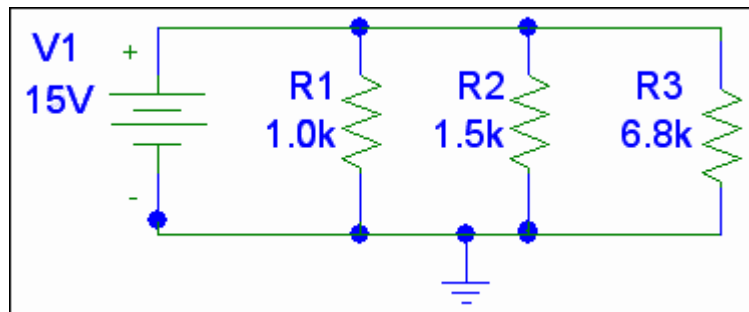

Figure 1d-2
1. Connect the circuit shown in **Figure 1d-2**.